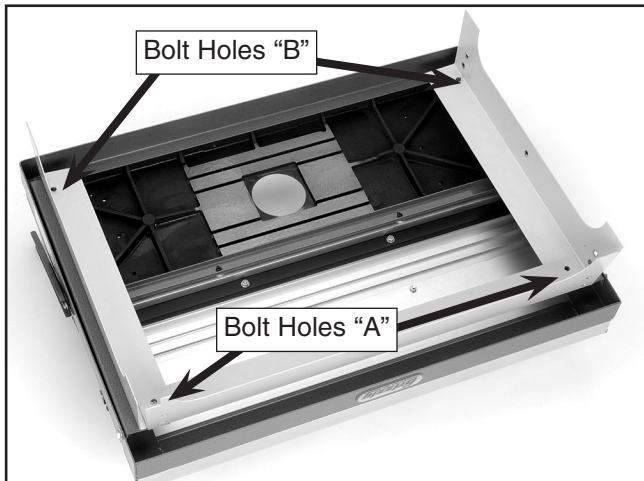
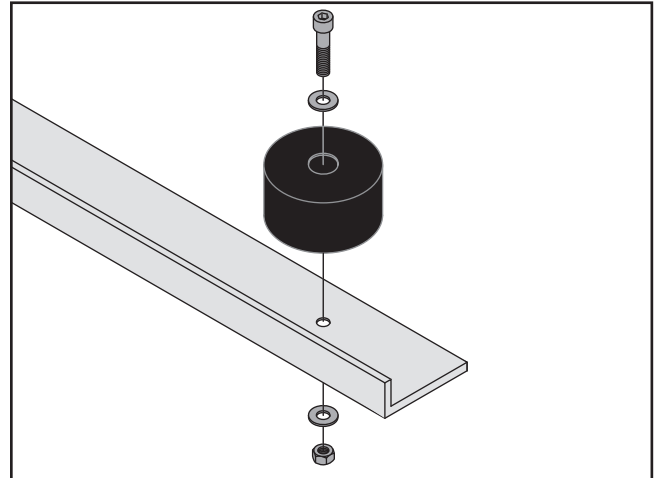

Figure 5. Table cross supports.
Figure 6. Securing cross supports to table.
2. Position the table cross supports on the table assembly and align the bolt holes (**Figure 5**).
3. Secure bolt holes "A" (**Figure 5**) with 2 hex bolts, 4 flat washers, and 2 hex nuts.
4. Secure bolts holes "B" (**Figure 5**) with the rubber stops, 2 cap screws, 4 flat washers, and 2 hex nuts (**Figure 6**).